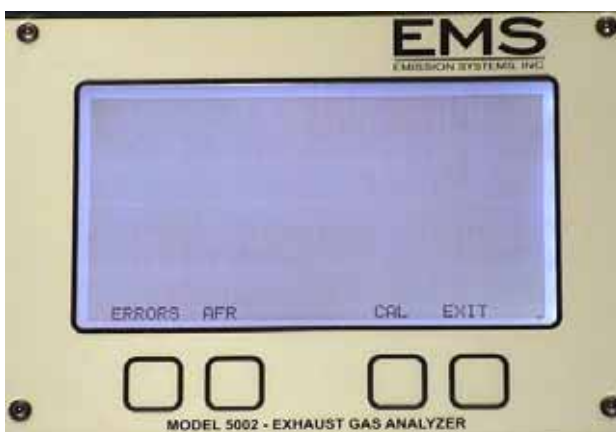
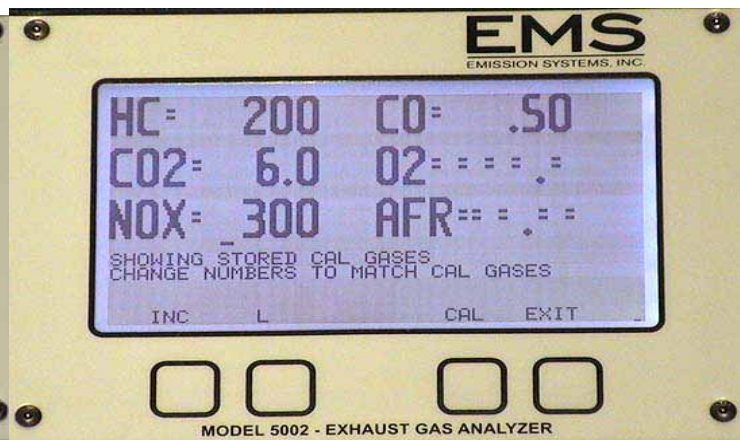

Figure 19
Figure 20
1. To begin the calibration procedure depress the "Menu" button on the sampling screen. The main menu screen will show you the "CAL" button (Figure 19). Press the "CAL" button and the display will show the stored calibration gas values (Figure 20), compare these numbers to the calibration gas bottle. If the numbers do not match, change the values using the "L" and "INC" buttons. The "_" indicates which # will change, the "L" button move the _ left to the next digit, the "INC" changes the value. This process is continued until all the calibration gas values are correct. At this point press the "CAL" button.